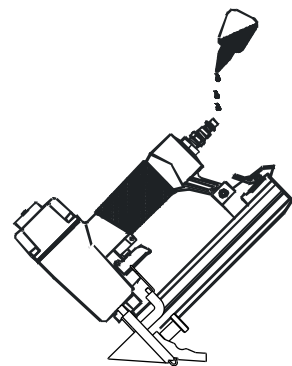

Figure 3
2. Place two (2) drops of air-tool oil in the air plug as shown in Figure 3. If you are using an automatic in-line oiler, check and add oil if necessary.